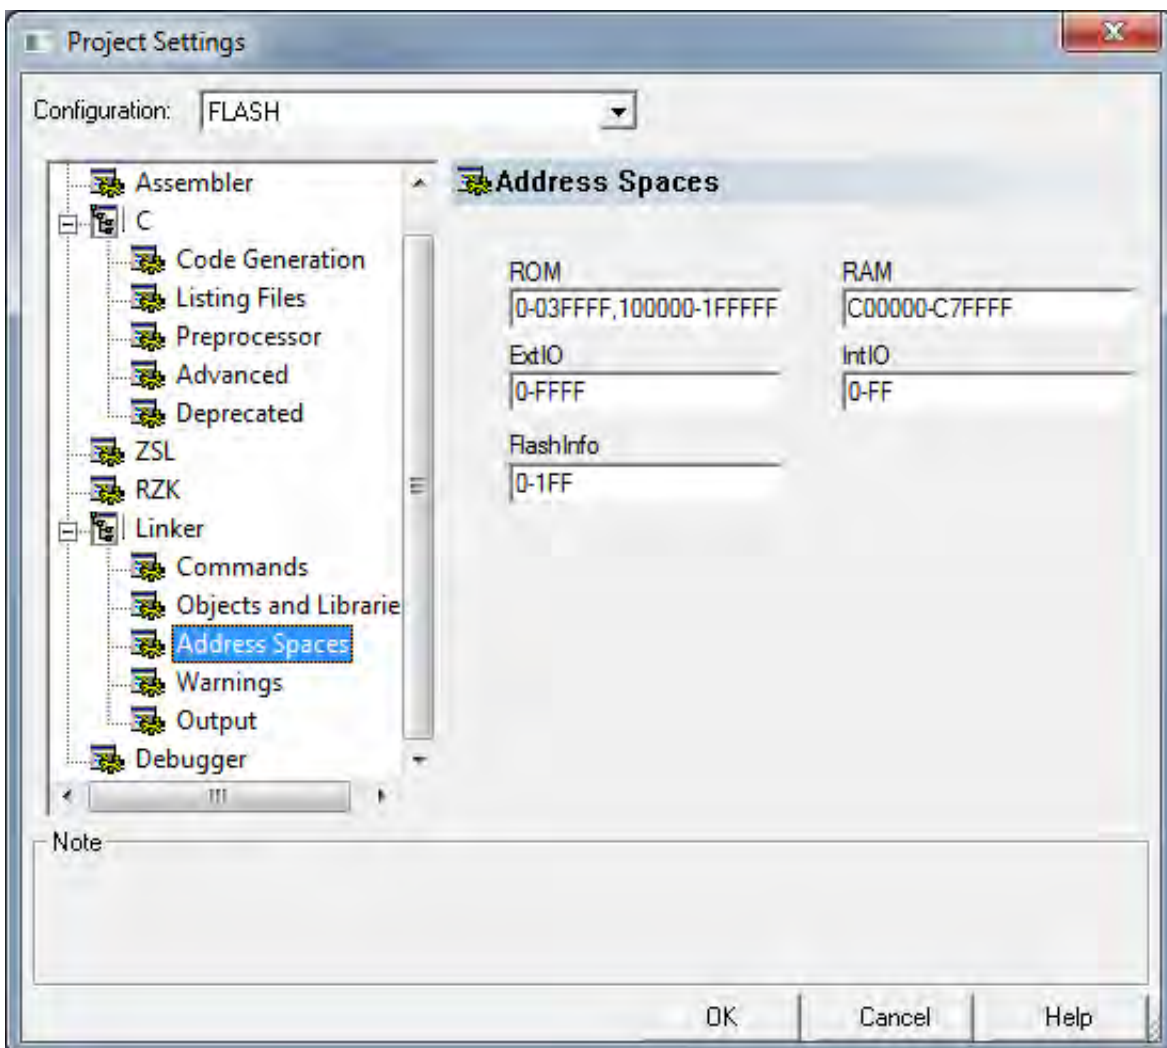

Figure 5. Flash Build Configuration: Recommended Address Space Settings
When using the eZ80F91x150MODG Module with the eZ80F91 Development Board, the recommended settings for the Address Spaces tab in the Project Settings menu for Flash build configurations are shown in Figure 5. Verify that your settings match the values in this figure.
► **Note:** The ROM address space shown in Figure 5 only includes the first 2MB of external Flash memory. If your project requires additional ROM memory (i.e., code space), the upper range of the ROM address space can be increased up to 0x7FFFFFFF.